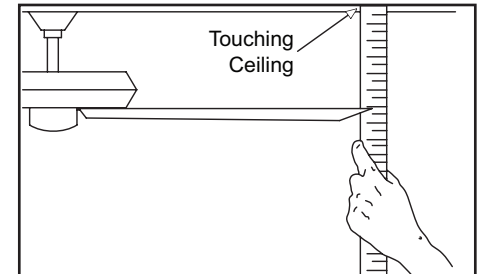

Figure 13
2. Most fan wobble problems are caused when blade levels are unequal. Check this level by selecting a point on the ceiling above the tip of one of the blades. Measure from a point on the center of each blade to the point on the ceiling. Measure this distance as shown in Figure 13. Rotate the fan until the next blade is positioned for measurement. Repeat for each blade. Measurements deviation should be within 1/8". Run the fan for 10 minutes.